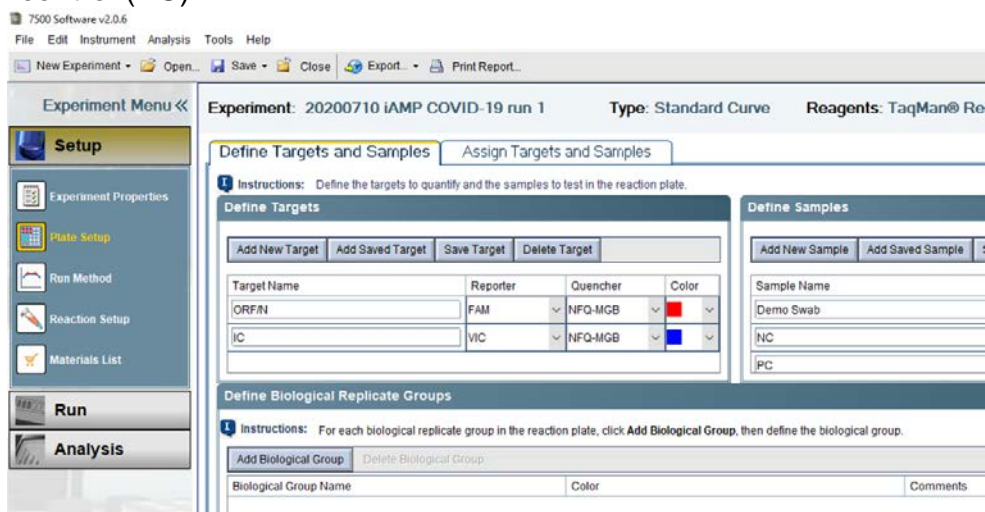

Figure 11. Plate setup.
3. Setup Plate as shown in Figure 11. Define Targets on target names and reporters. Edit sample information, including negative control (NC) and positive control (PC)